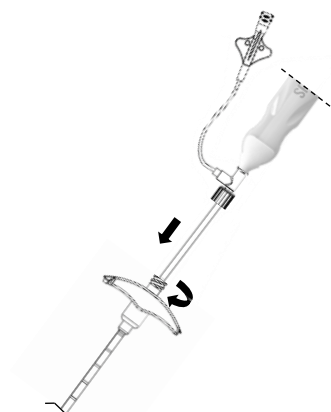

Figure 16 - Inserting the probe into the introducer
1. Fully insert the probes into the positioned introducer and lock it with the introducer's luer lock port (Figure 16).